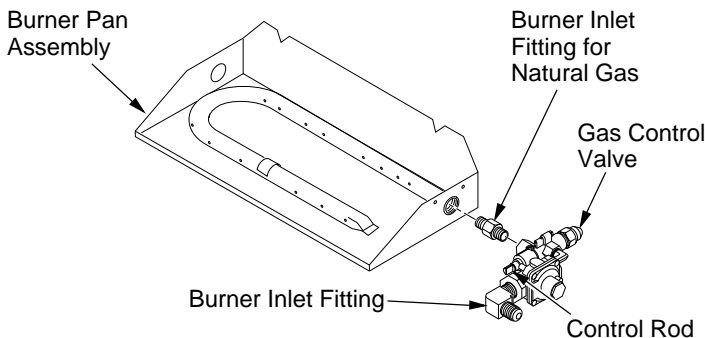
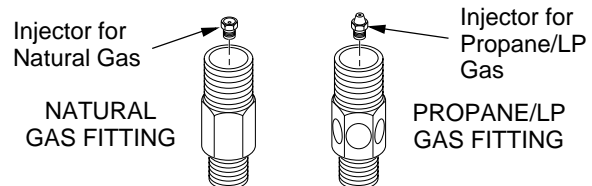

Figure 8 - Removing/Installing Gas Control Valve
Figure 9 - Burner Inlet Fittings with Injectors
4. Using a wrench, remove gas control valve by turning counter-clockwise (see Figure 8).
5. Remove the burner inlet fitting from the gas control assembly (see Figure 8). DO NOT remove the orifice from this fitting. The propane/LP burner inlet fitting is included in the hardware kit (see Figure 9).
7. Using thread sealant (resistant to the action of propane/LP gas) on smaller end of fitting, screw the burner inlet fitting into the outlet side of the gas control (see Figure 8). Tighten using a wrench.
8. Thread gas control valve and burner inlet fitting into burner manifold (see Figure 8). Use thread sealant on male threads of burner inlet fitting. Secure with a wrench. Make sure control rod is facing the front (see Figure 8).